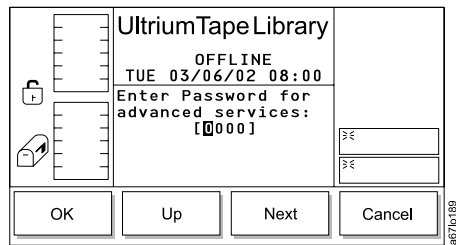

Figure 260. Enter Password Dialog
- **Instruction for service personnel only:** To reenter the library's serial number after you have replaced the main controller board, press the button below the **Normal/Advanced** softkey. The screen refreshes and highlights the **ADVANCED** service type. The Enter Password Dialog displays (see Figure 260 on page 191).